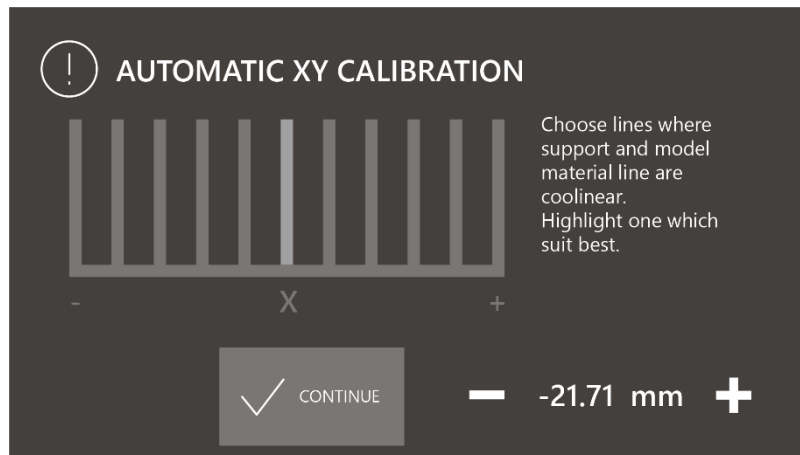

Fig. 65 Automatic offset calibration screen in the X axis
3. After printing the model, select the line on the display on which the model material with the support material in part X is best covered (fig. 65).